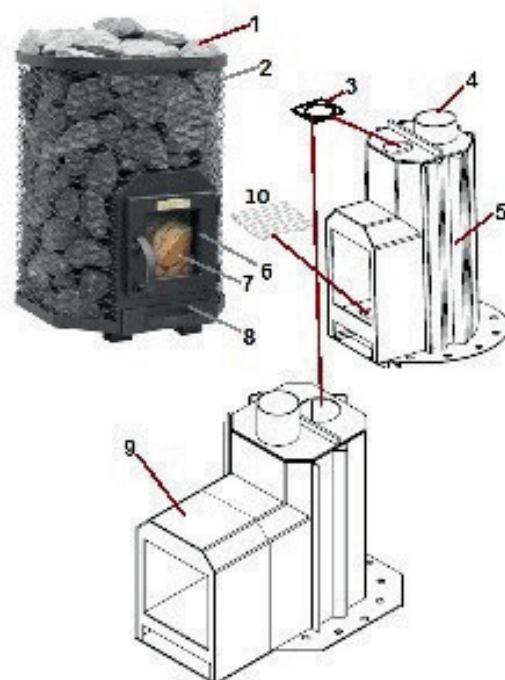

Figure 1. Heater components
1.1. Heater components (See Fig. 1)